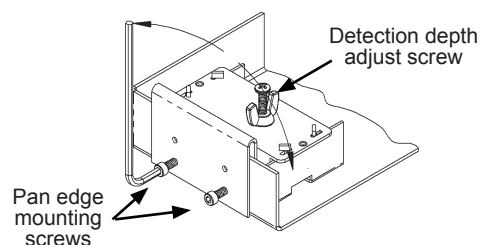

Fig. 6: Water Sensor Pan Rim Mounting
- Alternatively a water sensor or remote water sensor can be attached to the pan edge with two set screws (Fig. 6). Do not over tighten or puncture the pan.